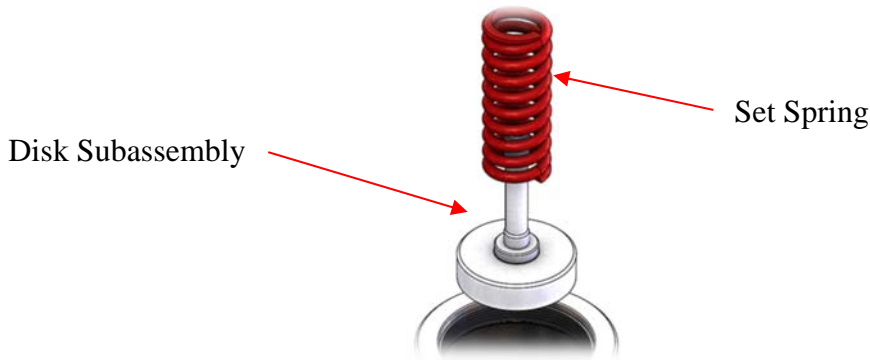

Figure 26: Top Entry Internal Components
- 5. Remove the set spring and lower spring guide (if one is present) and discard the disk subassembly. See Figure 26.